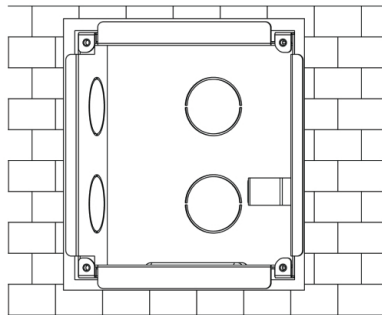

Figure 2-6
- Step 2** Embed metal bracket into wall until its four peaks lean against the wall. See Figure 2-6.